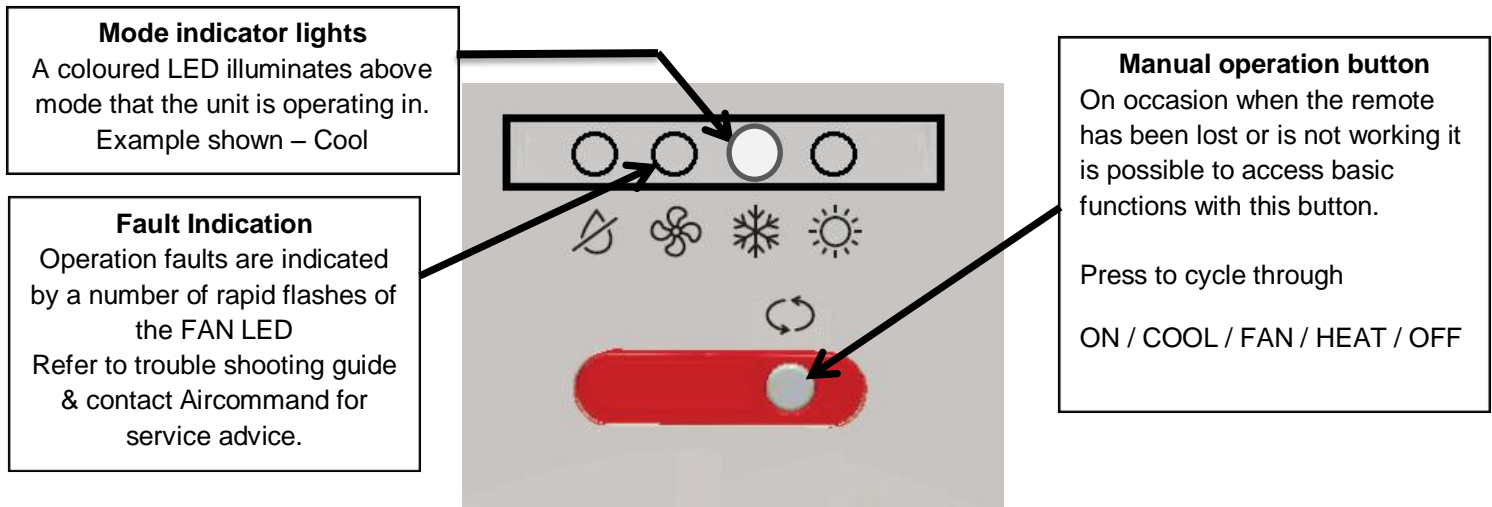

Figure 26 - Status display in corner of inside plenum
**Plenum Status Display (Figure 26)**
Remote control is not operating	Check the remote control screen. If blank then replace batteries See Figure 23 - Remote control batteries. Stand close to unit and point remote directly towards the IR receiver in the plenum. Test operation of remote. If there is no 'beep' from the air conditioner then replace batteries and re test. See Figure 23 - Remote control batteries. Test air conditioner operation by using manual operation button. See Figure 26 - Status display in corner of inside plenum.